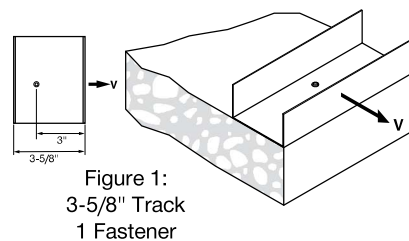

Figure 1:
- 2 The steel deck profile for the 3" deep composite floor deck has a minimum thickness of 20 gauge (0.0358") and a minimum Fy = 33 ksi. Lower and upper flute width must be a minimum of 3-7/8". Figure 1 in Section 3.2.1.6 shows the nominal flute dimensions, fastener locations and load orientations for the deck profile. Structural lightweight concrete fill above top of steel deck must be minimum 3-1/4".